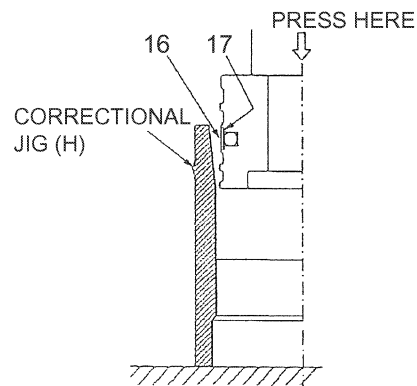

Fig. 32-47 Installing seal ring (16)
(2) Install the back-up ring (17) on the remaining side. After installing, compress it immediately to prevent expansion of the seal ring (16) with correcting jig (H) as shown in Fig. 32-47.